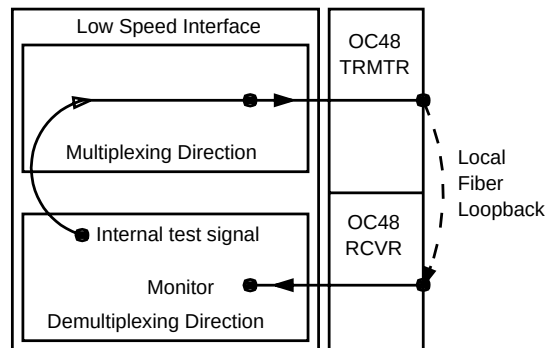

Figure 9-22. Local (Terminal Self-Test)
- **Local (Terminal Self-Test):** The **FAULT-Test-Auto Turnup-Local** input verifies the internal health of the FT-2000 OC-48 Add/Drop-Rings Terminal itself. It tests the transmission path between the low-speed interface circuit packs [DS3, STS1E, OC-3, and OC12 (1.3 STD)] and the OC48 RCVR and OC48 TRMTR circuit packs (Figure 9-22). The FT-2000 OC-48 Add/Drop-Rings Terminal also tests the through and loopback transmission paths between OC48 RCVR and OC48 TRMTR circuit packs.